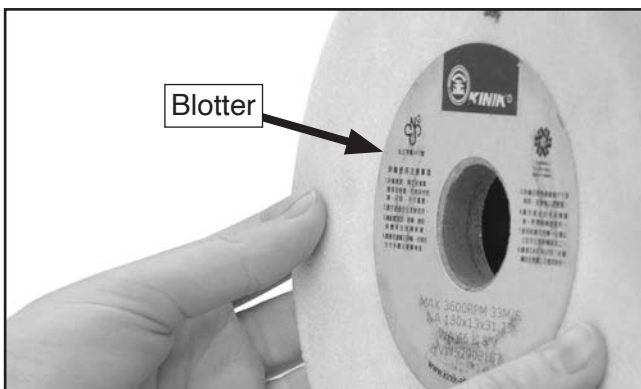

Figure 38. Important wheel blotter.
3. Inspect blotters on both sides of grinding wheel (see **Figure 38**).